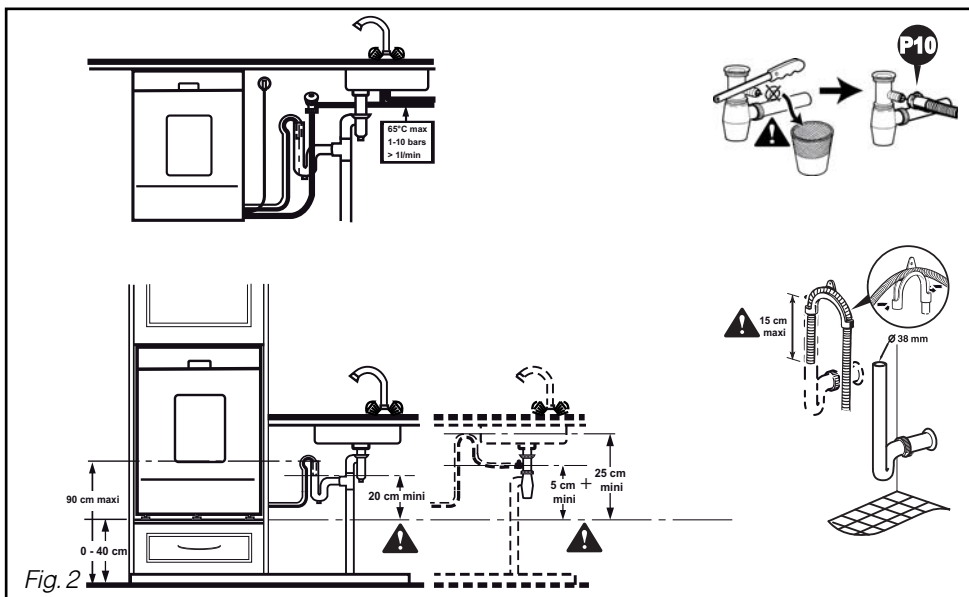

Fig. 2
• AFVOER VAN AFVALWATER: FIG. 2